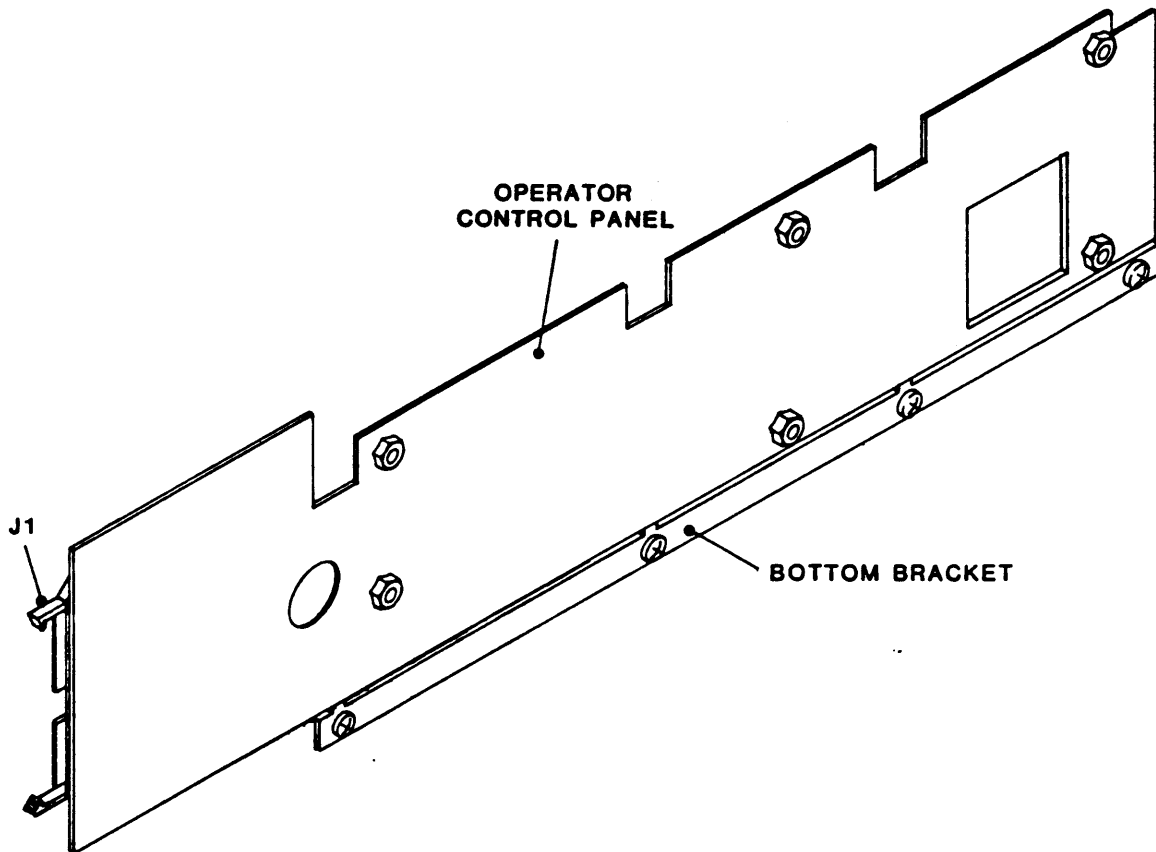

Figure 4-10 Operator Control Panel PCBA
4.3.10 OPERATOR CONTROL PANEL PCBA (Fig. 4-10)